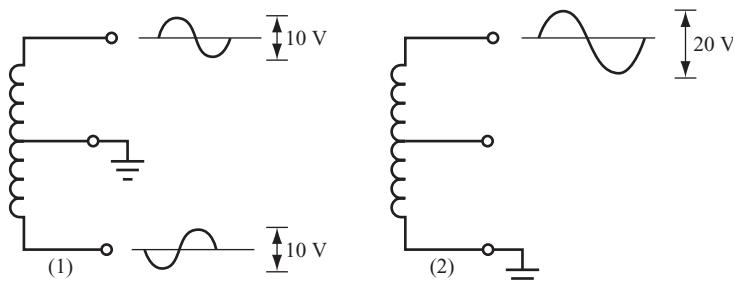

FIGURE 10.9
- 12** The actual voltage measured across the secondary coil of a transformer depends upon where and how you make the measurement. Figure 10.9 illustrates different ways to measure voltage across a 20 V_{pp} secondary coil that has a center tap.
If the center tap is grounded as shown in diagram (1) of Figure 10.9, then there is 10 V_{pp} AC between each terminal and ground. You can see that the two output waveforms in diagram (1) are out of phase (180 degrees out of phase, in this case) by comparing the two sine waves shown next to the two terminals. If the bottom terminal is grounded as it is in diagram (2) of Figure 10.9 and the center tap is not used, then there is 20 V_{pp} between the top terminal and ground.